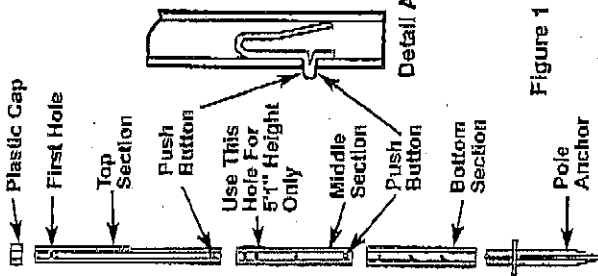

Figure 1
Insert push buttons into top and middle pole sections. Make sure buttons protrude through holes. See Figure 1, Detail A.
- A. Insert the top pole section into the middle pole and the middle pole into the bottom pole by aligning the holes and push buttons. See Figure 1.
The height of the net can be adjusted by depressing the pushbuttons on the middle pole and raising or lowering the poles until the pushbuttons are aligned with the holes in the bottom sections. Note: If 5'1" height is desired, remove bottom poles, guide ropes and anchors, as they are not used. Use second hole for pushbutton in middle section (new bottom pole) (see Fig. 1). Place larger caps under new bottom pole and set up as before. Caps replace anchors on ground.